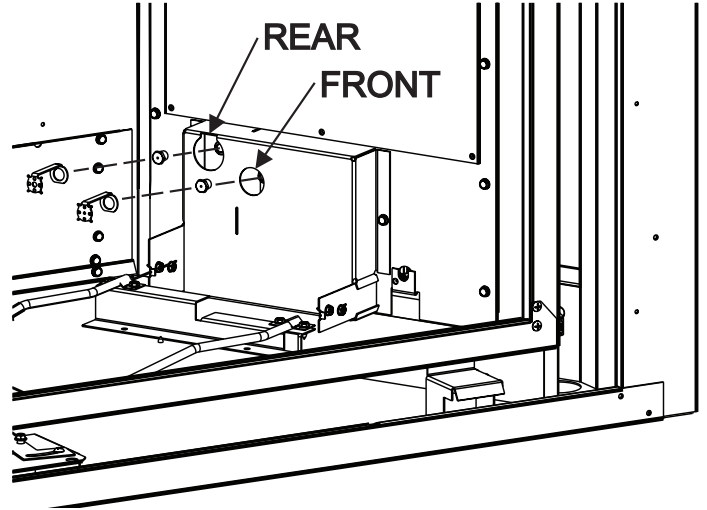

Figure 4
6. Use needle-nose pliers to remove targets and discard. **See Figure 4.**